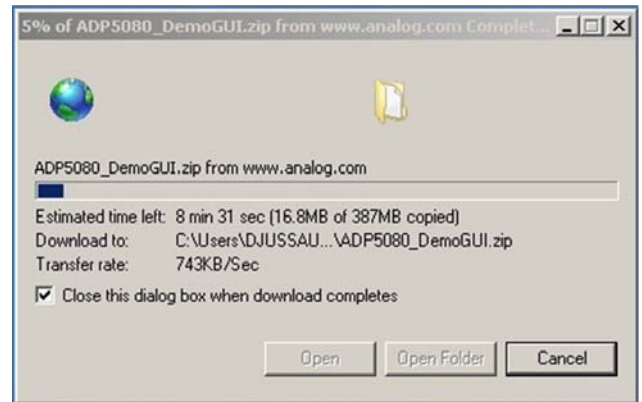

Figure 10. Percent Completed Window
3. Allow several minutes for the download to complete (see Figure 10). The download includes the **ADP5080 Evaluation Board GUI Software Installation** file and the **ADI SDP Drivers 1.4.10.0** file in one bundle (see the Analog Devices, Inc., SDP Drivers Installation section).